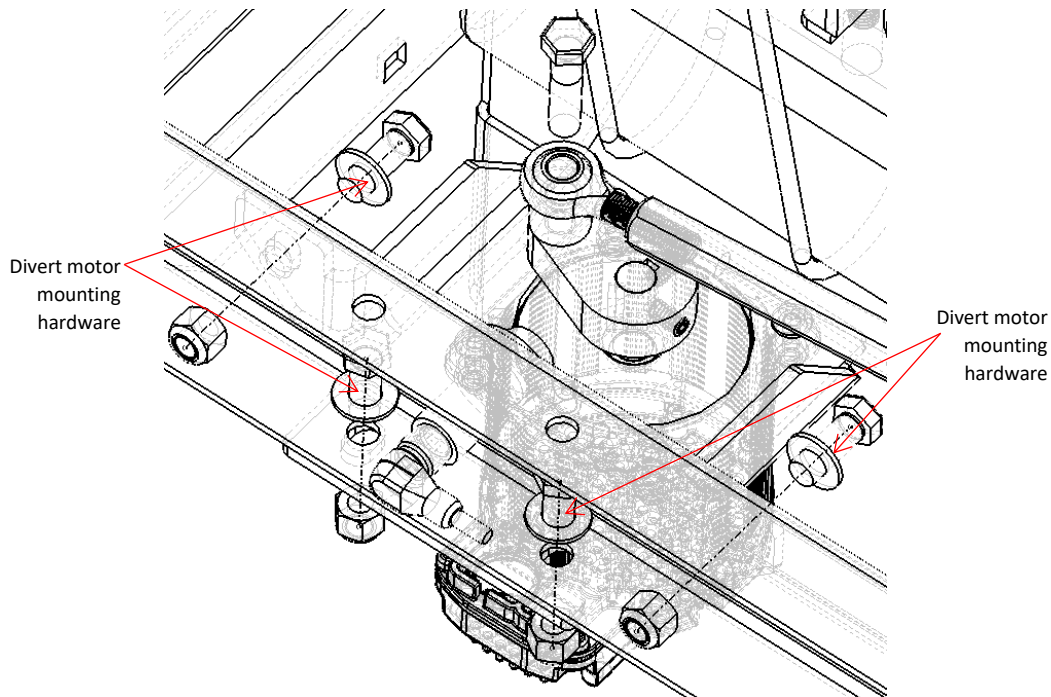

Figure 20: PWD divert motor mounting locations
4. Remove the divert motor mount sub assembly from the frame. The divert motor mount is connected to the frame via (4) 3/8" hex head cap screws and nylock nuts. Refer to Figure 20 that illustrates the mounting hardware and location. The torque requirement for 3/8" hex head cap screws and nylock nuts is 31 ft-lbs.